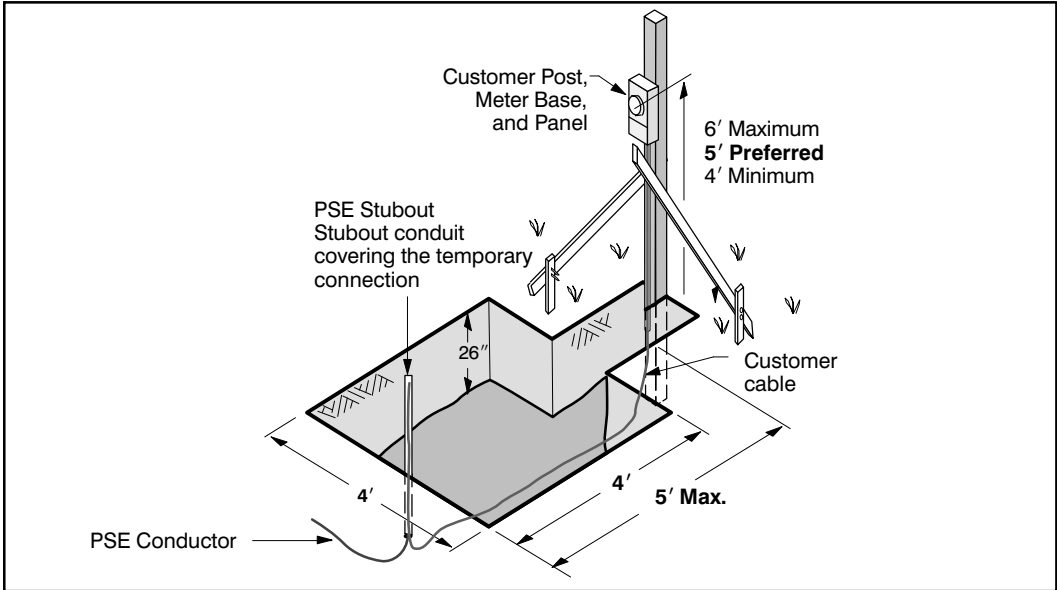

Figure 32 Trenching requirements for power stubout
It is the **customer’s responsibility** to provide the trenching needed to connect to a power stubout (shown in *Figure 32*). The cable you provide is to be sized according to the NEC and have a minimum 24 inches of backfill coverage.
4. Install your meter pedestal and meter base/socket in the appropriate location (see *Figures 32 and 33*).